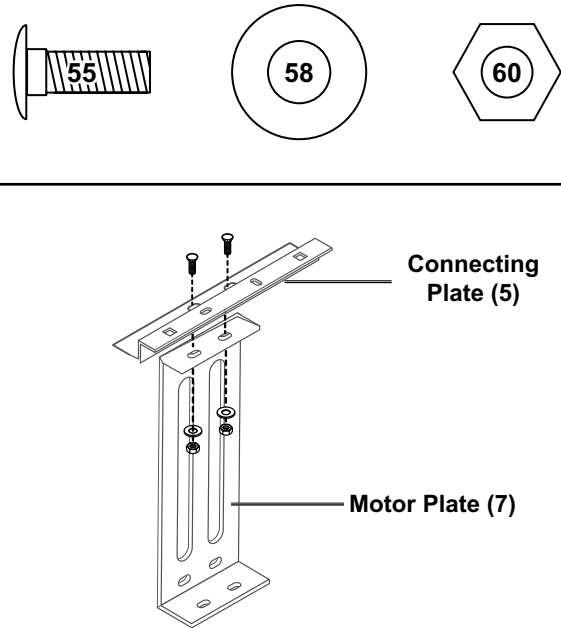

Figure 1
**Note:** During this phase, finger tighten all Nuts to allow adjustment and leveling. All connections in this phase are made with one Carriage Bolt (55) going through the connection from the outside then being secured with a Washer (58) and Nut (60).
1. Insert two Carriage Bolts (55) through the lower tier of the Connecting Plate (5) and fasten to the top end of the Motor Plate (7). The top end of the Motor Plate has the shorter flange and the bottom end has the longer flange. See Figure 1.